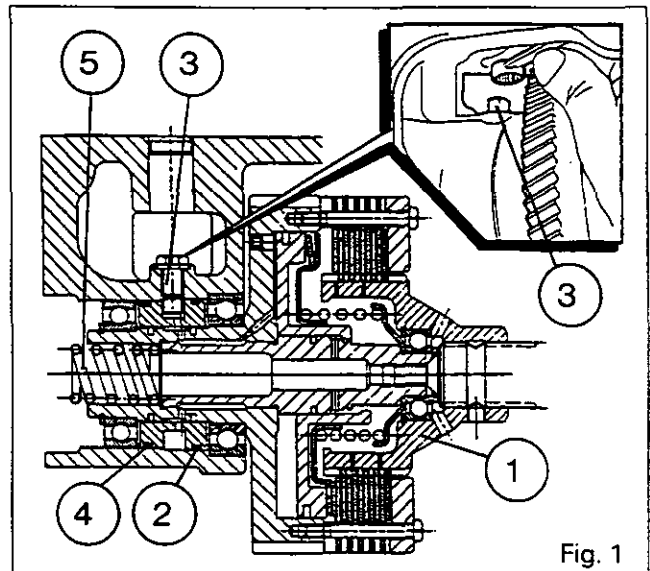
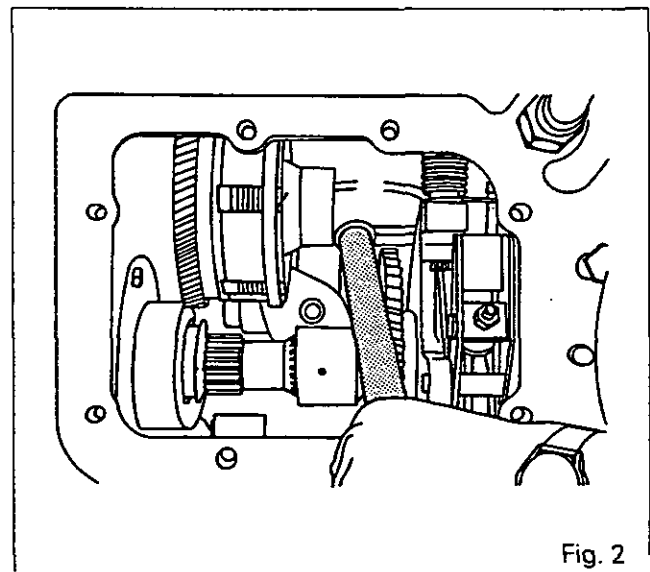

Fig. 1
Fig. 2
Version without PTO (Fig. 1)
3. Remove the retaining screw (3) of the clutch (1). Remove the clutch and the spring (5) (Fig. 1).
5. Check that the O-rings (2) and (4) (Fig. 1) have not deteriorated.
6. Place the spring (5) (Fig. 1) in the hollow clutch shaft and refit the clutch, pushing it as far as possible with a lever (Fig. 2) so as to compress the spring in order to fit the screw (3) (Fig. 1).
7. Clean the screw and smear it with Loctite 221 and tighten it with a ring spanner (Fig. 1).
14. Remove the retaining screw (3) of the clutch (1). Remove the clutch and the spring (5) (Fig. 1).
16. Check that the O-rings (2) and (4) (Fig. 1) have not deteriorated.
17. Place the spring (5) (Fig. 1) in hollow clutch shaft and refit the clutch, pushing it as far as possible with a lever (Fig. 2) so as to compress the spring in order to fit the screw (3) (Fig. 1).
18. Clean the screw and smear it with Loctite 221 and tighten it with a ring spanner (Fig. 1).
23. Remove the bolts (16).
24. Remove the clutch housing (15), the inner plates (17) and the outer plates (14).